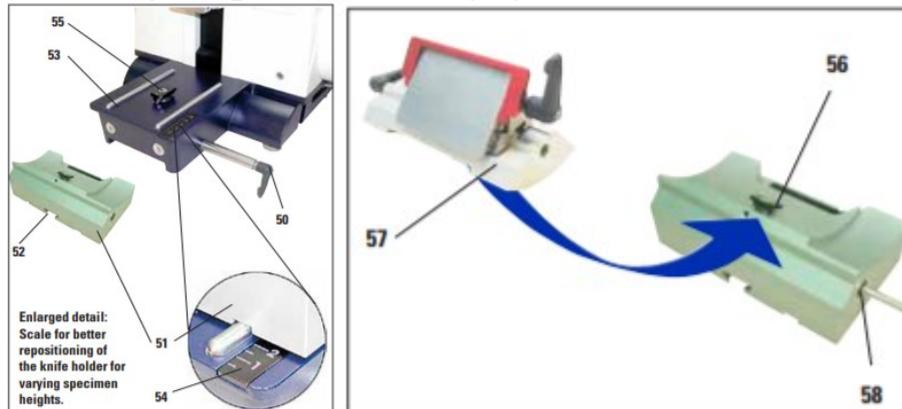

Figure 5 Inserting knife holder
- Setting up the knife holder base (Figure 5)
- Release the clamping lever (50) by rotating it counter clockwise.
- Insert the knife holder base (51) using the notch (52) on the bottom into the T-piece (55) of the microtome base plate (53).
- To secure the knife holder base, turn the clamping lever (50) clockwise.
- Inserting the knife holder (Figure 5)
- Loosen the screw (58) using an Allen key size 4 (71) until the knife holder (57) can be moved.